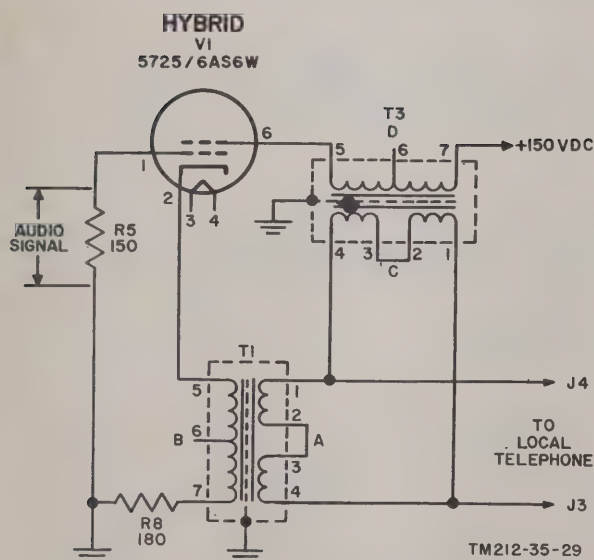

Figure 29. Simplified hybrid circuit receiving signal.
*c. Operation of Hybrid When Receiving.* Since the plate circuit of V1 is not used in this phase of hybrid operation, the circuit can be simplified by redrawing V1 as a triode (fig. 29). The screen grid of V1 is located between control grid 1 and control grid 2. As in a normal pentode, dc screen current is flowing and the screen grid can be considered as the plate of a triode. The screen grid current of V1 flows through winding D of transformer T3. A dc current will establish a steady field and nothing will appear across winding C of T3. The audio signal (voice frequencies from the remote set) applied to control grid 1 of V1 will increase and decrease the flow of electrons from the cathode to the plate (screen grid) of V1. This increase and decrease will appear as an ac component to the dc screen grid current. The ac component introduced by the audio signal causes the magnetic field in winding D to vary and, by transformer action, an ac voltage (the audio signal) appears across winding C of transformer T3. The local telephone is connected across winding C of transformer T3 and the audio signal appearing across winding C will be heard in the telephone. The audio signal appearing across winding C of transformer T3 also appears
across winding A of transformer T1 (fig. 29). Winding B of transformer T1 is in the cathode of V1 and therefore a feedback loop exists. The phase of the audio voltage across winding B is such that the degeneration that normally takes place in a unbypassed cathode is canceled. The audio signal also appears across the primary of transformer T4 and is amplified by V3B and V4 and is applied to the input of FL1. The audio signal will go no further since FL1 will react only to an 800-cps signal of proper duration. The voice frequencies do not contain 800-cps signals of the correct duration to trigger FL1.